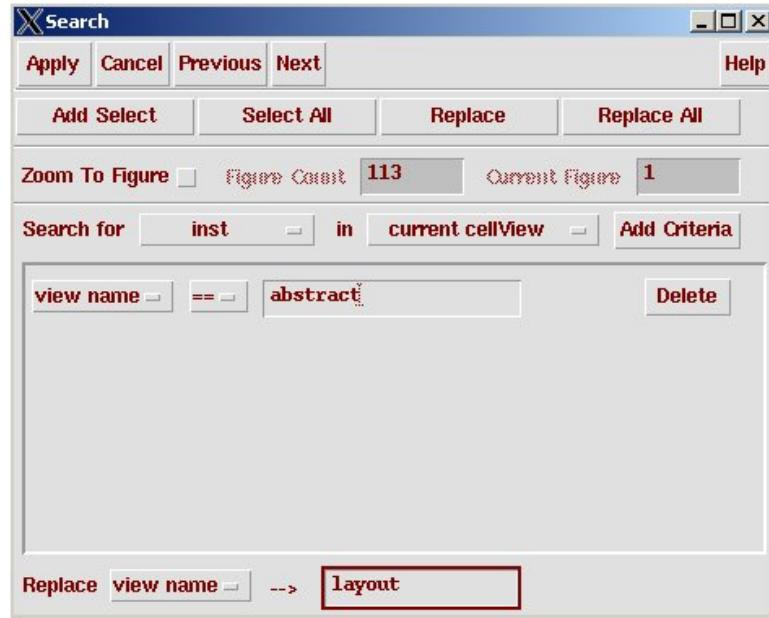

Figure 10.37: **Search** dialog box for replacing abstracts with layouts
2. Now you need to replace the view of those cells with **layout**. Click on the **Replace** field to change it to **View Name** and change the name to **layout** (See Figure 10.37). Now click on **Replace All** and all the cells whose view used to be **abstract** will be updated to use **layout** views.